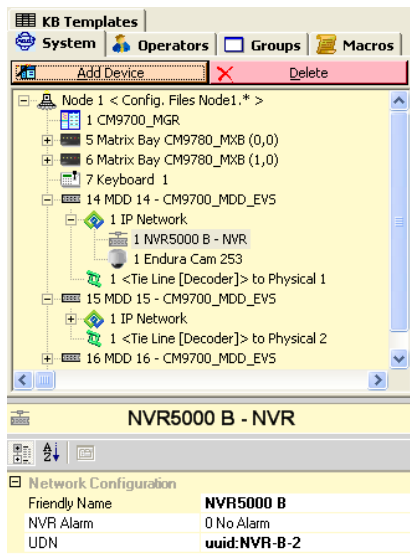

Figure 36. Viewing NVRs in the Device Tree
- Configure each NVR with a unique identifier by completing either or both of the following fields in the CM9700-MGR (to complete the fields, click the NVR, and then click the appropriate field in the properties box; refer to Figure 36):